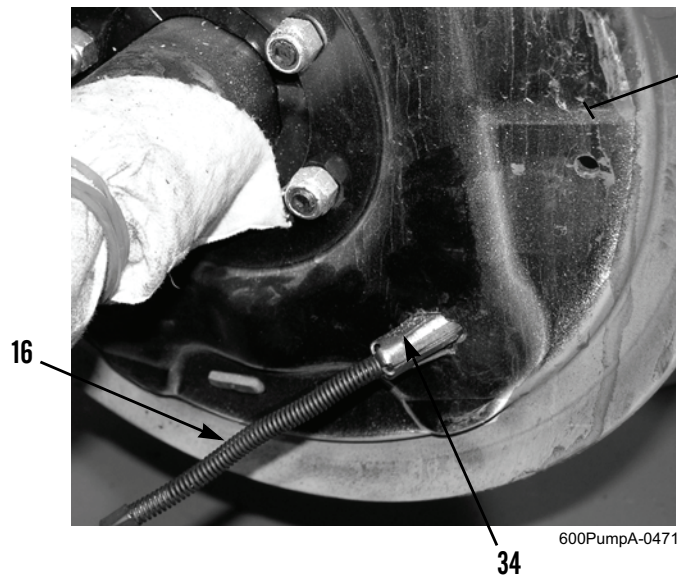

Figure 3. Hand Brake Cable at Backing Plate.
3. Inspect backing plate (Figure 3, Item 8) for cracks, breaks, corrosion, or other damage. If damaged, replace backing plate:
- a. Squeeze tabs (Figure 3, Item 34) on hand brake cable (Figure 3, Item 16) and push hand brake cable out from backing plate (Figure 3, Item 8).